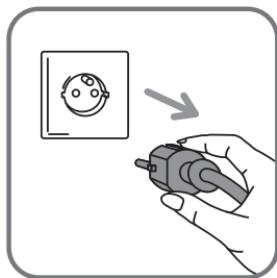

fig.1
IMPORTANT Before doing anything else, remove the sticker on the side **fig.1**.
- Before filling the water tank, unplug the iron fig.1.